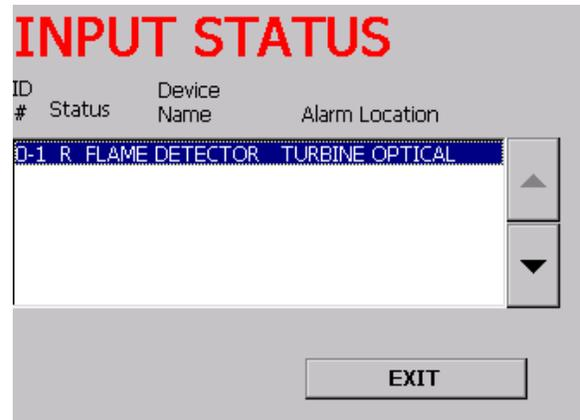

FIGURE 13.7 Node data and status.
□ Select the VIEW INPUTS button as indicated in figure 13.7 to view the node details as well as any other input alarms associated with this configuration. Selecting the VIEW INPUTS allows individual viewing of each input node contained in the configuration.